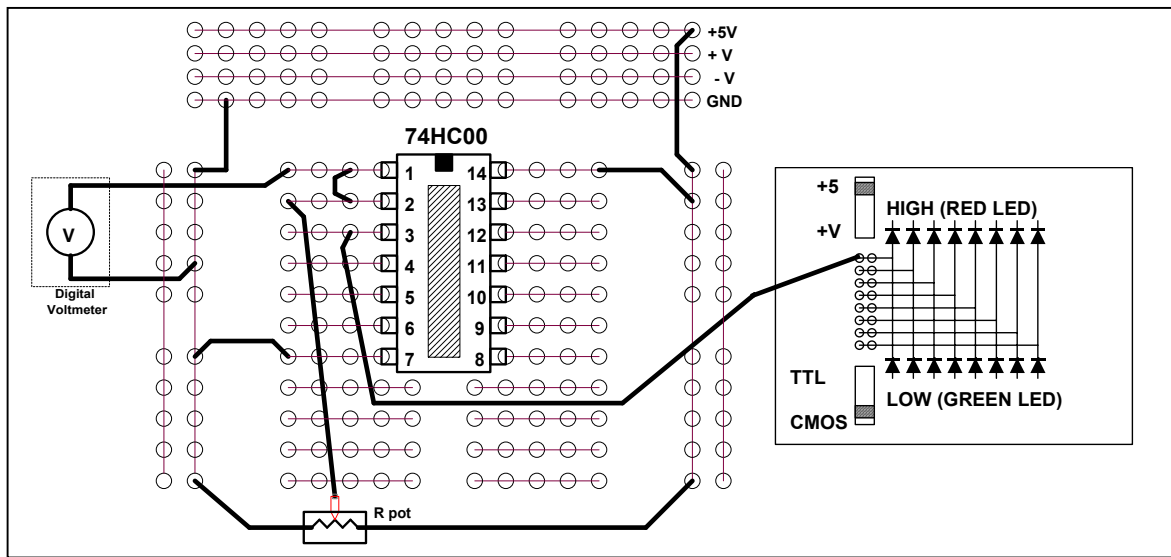
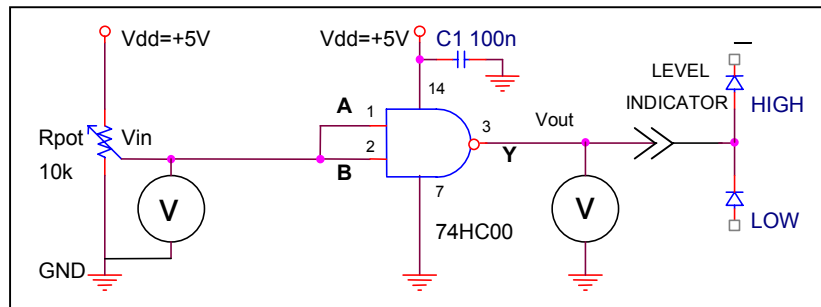

Figure 5.1 A completely designed and connected circuit.
Figure 5.7 NAND gate threshold test circuit.
- 1.1.1. Connect the 2-input NAND gate as shown in Figure 5.7. Remember to power the Vdd to pin 14 and GND to pin 7 of the chip. For the power supply, use the built-in source of Vdd=+5V of your PROTO-BOARD (the top horizontal strip on the power bar). Remember also to leave the Power Supply turned off, until you are sure that your circuit is wired correctly. To achieve better circuit stability, connect capacitor C1 between Vdd and Ground close to pin 14 of the IC 74HC00. **Note:** Figure 5.1 shows how the circuit of Figure 5.7 should be wired.